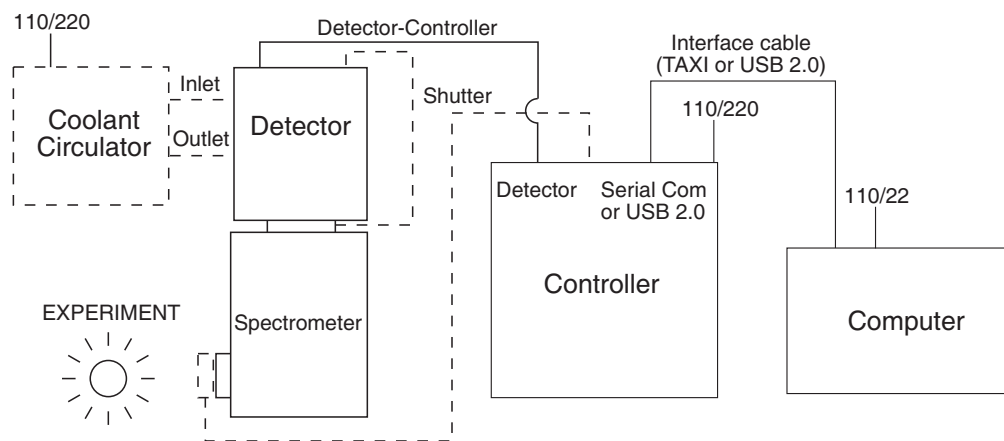

Figure 8. System Connection Diagram (TE Camera and Spectrometer)
1. If the system cables haven't as yet been installed, connect them as follows (system power off). *See Figure 8.*